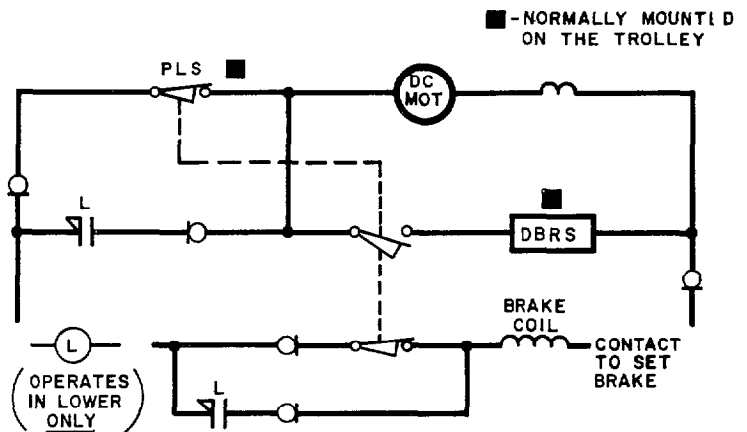

Fig. 3-11 Power Limit Switch Circuit
A "power" limit switch is sometimes required as an overhoist limit switch which actually interrupts the power loop of the D-C motor and generator and connects a dynamic braking resistor across the motor armature (Fig. 3-11). A contact on the power limit switch (PLS) de-energizes the brake directly. When backing out of the limit switch, the master switch picks up the lower contactor (L) which bypasses PLS energizing the brake.